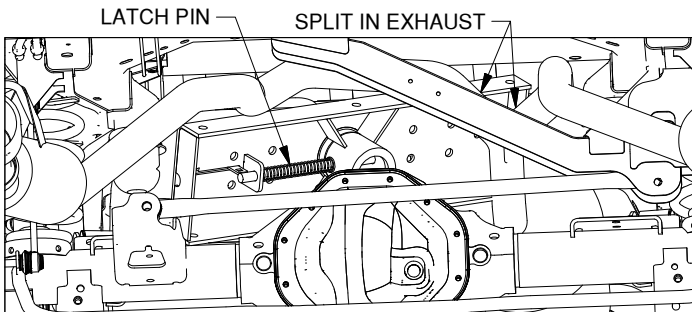
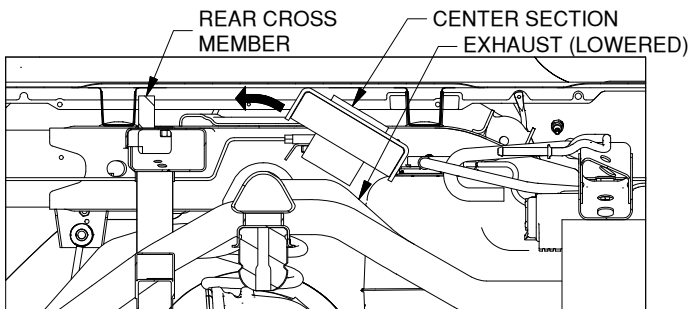

Figure C1: View looking under truck bed toward the cab.
Figure C2: Cut-away view looking towards the inside of the driver side frame.
2. **Position the center section (Dual Exhaust).** When maneuvering the center into position, the exhaust will need to have downward force applied to it to open up the space below the bed where the center will install. From behind the axle, move the center section over the driver side of the axle toward the passenger side with the latch pin on the driver side. Lift the center up over the exhaust where it splits, as shown in Figure C1. Lower the driver side exhaust and "roll" the center section over the exhaust, as shown in Figure C2. Do not put the 4" diameter raised area of the center into the 4" hole in the bed at this time. Move the center as far toward the rear of the truck and to the passenger side as possible to make room for the front cross member. Position the center in a secure manner so that it will not fall while completing the installation.